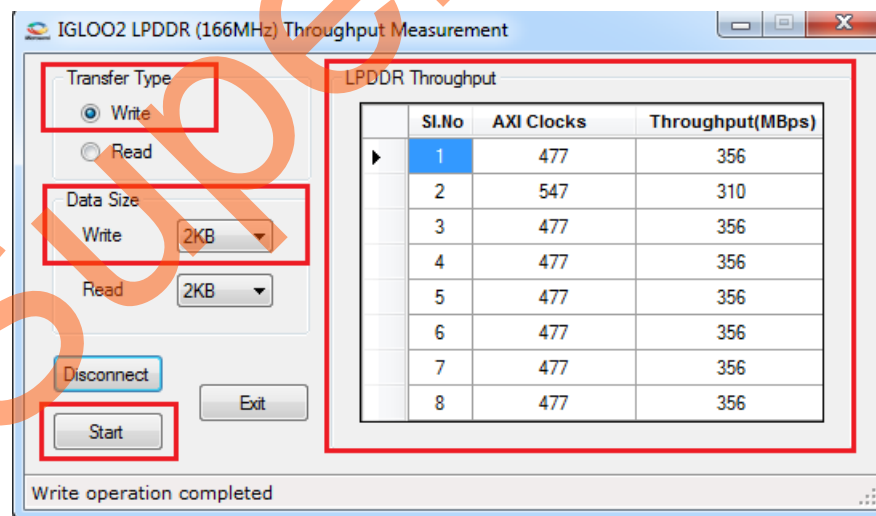

Figure 36 • Write Throughput Measurement
4. Select Write data size or Read data size from the drop down box and click Start. Figure 36 shows the write throughput measurement for 2 KB data transfer.